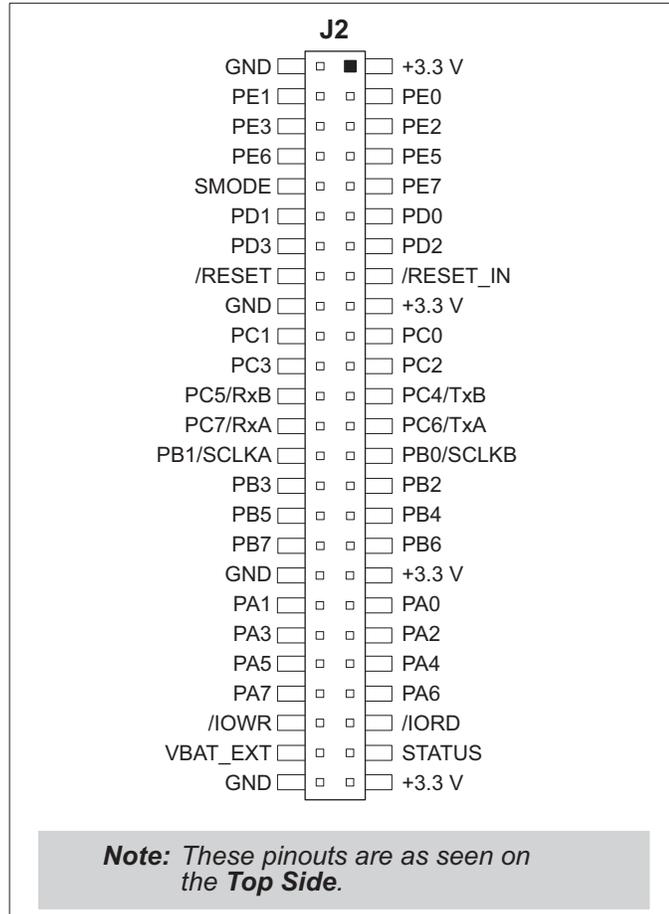

Figure D-4. MiniCore Boards Pinout
- **Module Extension Headers**—The complete pin set of the RCM5700 module is duplicated below header J2. Developers can solder wires directly into the appropriate holes, or, for more flexible development, a 2 × 25 header strip with a 0.1" pitch can be soldered into place. See Figure D-4 for the header pinouts.
The Digital I/O accessory board provides the user with RCM5700 connection points brought out conveniently to labeled points below header J2. The pinouts for header socket J2 are shown in Figure D-4.